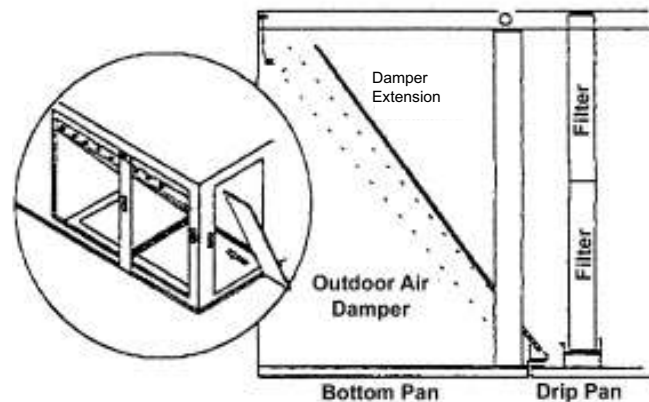

Figure 19 - Installing the damper extension
- c. Insert the blank-off section through the side access opening of the OA compartment. See Figure 19.